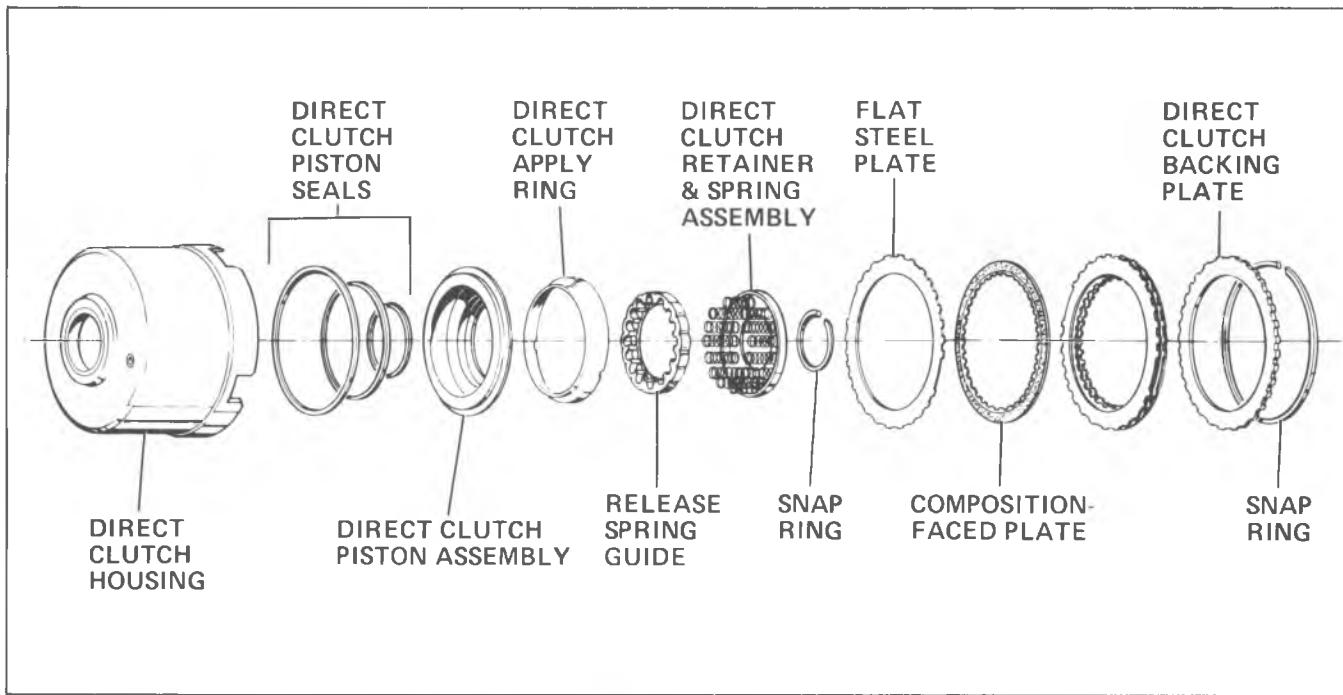

Fig. 7A-98A--Direct Clutch Assembly - Exploded
3. Remove the clutch plates from the direct clutch housing and keep them separated from the forward clutch plates. (See Clutch Plate Usage Chart, Fig. 7A-82A).